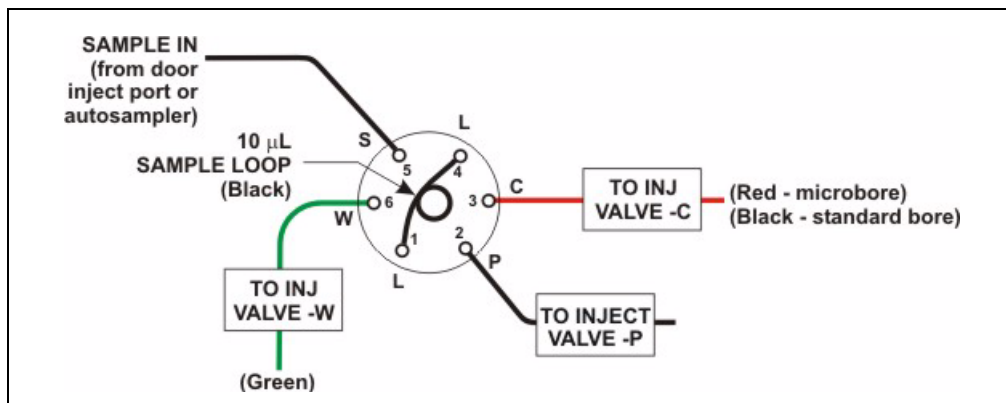

Figure 2-18. Injection Valve Plumbing (6-Port Valve)
Figure 2-18 shows the injection valve connections for the 6-port valve. The injection valve is plumbed at the factory with all tubing and fittings for connection to the pump, sample loading port, column, and waste. A 10  $\mu\text{L}$  PEEK™ sample loop (P/N 042949) is installed between ports L (1) and L (4).